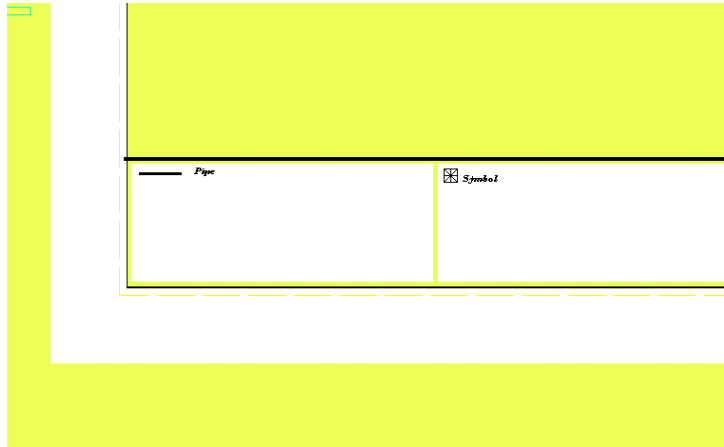

Figure 4-98
33. Select *Draw/Text* and type in the word **Symbol**. Set the font and size the same as for the pipe legend. Place the text to the right of the symbol. See Figure 4-98.